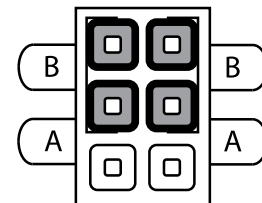

Figure 8: Class B Jumper Setting
1. Set the jumper assigned to the loop to the “B” position, as shown in Figure 8.